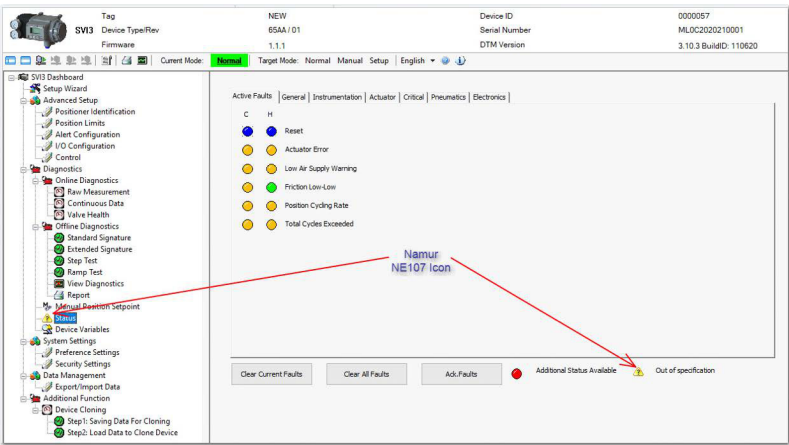

Figure 86 - NAMUR NE 107 icon indicator Location
- Add NAMUR NE 107 icon and category description, as shown in Figure 86.
- The NE 107 icon indicator locations are shown in Figure 86.